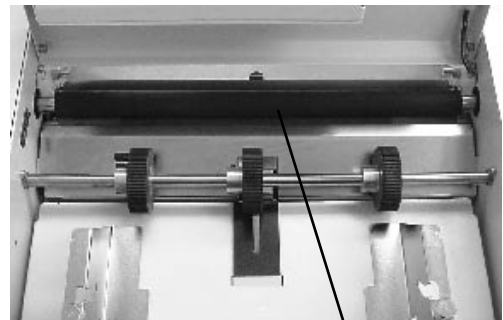

Fig. 13
1. Make sure machine is turned off and unplugged. All folders have four(4) rubber rollers (Fig. 13).